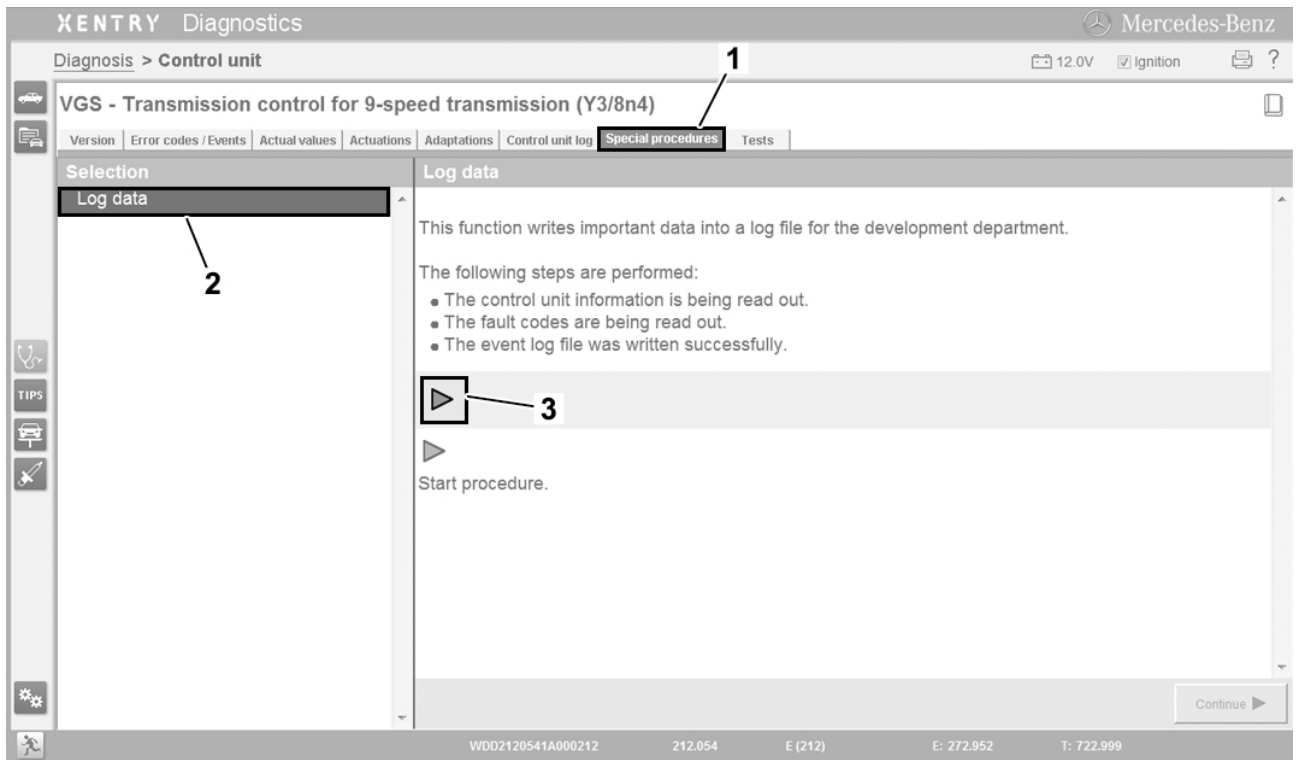

Figure 1. Special Processes Tab, Log Data and Start.
1. Select the “Special processes” tab (Figure 1) (1) in Xentry DAS.
2. Click menu item “log data” (Figure 1) (2).
3. Click “Start” (Figure 1) (3) to read out and save data.